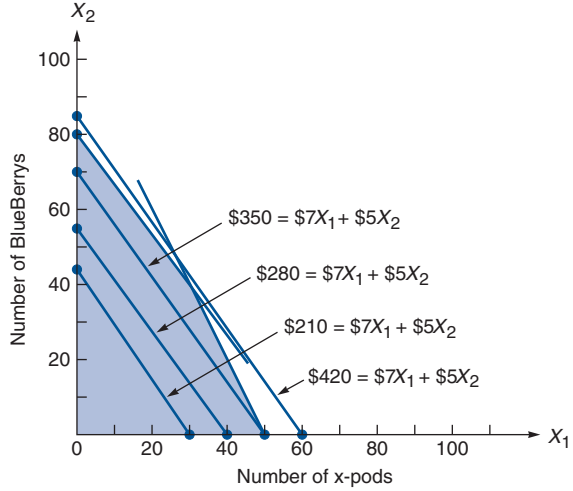

Figure B.5
We see, however, that the iso-profit line for \$210 does not produce the highest possible profit to the firm. In Figure B.5, we try graphing three more lines, each yielding a higher profit. The middle equation,  $\$280 = \$7X_1 + \$5X_2$ , was plotted in the same fashion as the lower line. When  $X_1 = 0$ :
**Allowable Ranges for Objective Function Coefficients** As the unit profit contribution of either product changes, the slope of the iso-profit lines we saw earlier in Figure B.5 changes. The size of the feasible region, however, remains the same. That is, the locations of the corner points do not change.